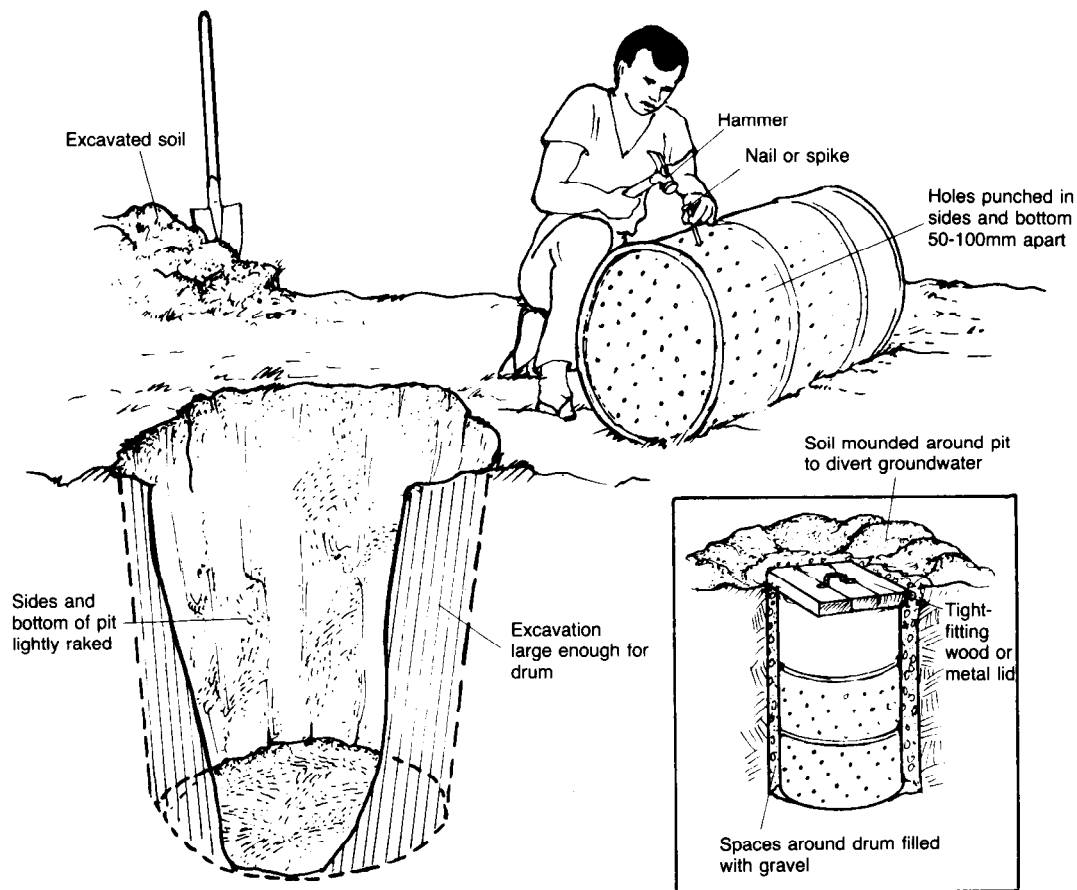

Figure 7. Drum-type Sump
3. Use a hammer and spike or large nail to punch holes in the bottom and the lower half of the sides of a 200-liter steel drum as shown in Figure 7. The inside edges of the holes may be jagged and sharp. Be careful to avoid cuts.
7. Fill in the space between the drum and the hole with gravel, pebbles, or small rocks, as shown in Figure 7.